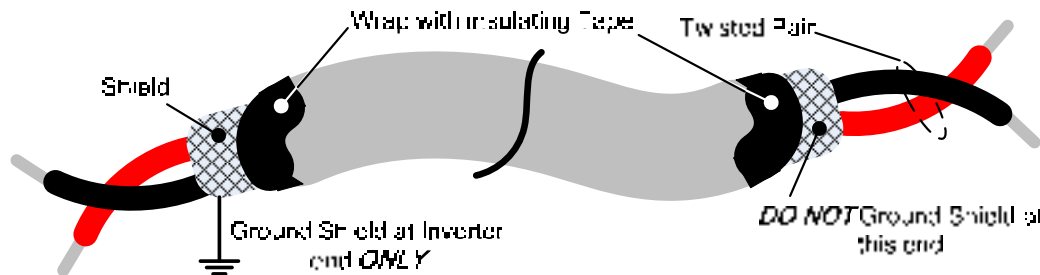

Figure 3.3.7.1 Shielded Twisted-Pair
- (1) Separate the wiring for control circuit terminals from main circuit wiring for terminals (R/L1, S/L2, T/L3, U/T1, V/T2, and W/T3).
- (2) Separate the wiring for control circuit terminals (R1A, R1B, R1C / R2A, R2C / R3A, R3C) from wiring for terminals S1~S6, A01, A02, GND, +10V-, AI1, AI2, and GND wiring.
- (3) Use shielded twisted-pair cables (#24 - #14 AWG / 0.5 -2 mm²) shown in Fig. 3.3.7.1 for control circuits to minimize noise problems. The maximum wiring distance should not exceed 50m (165 ft).